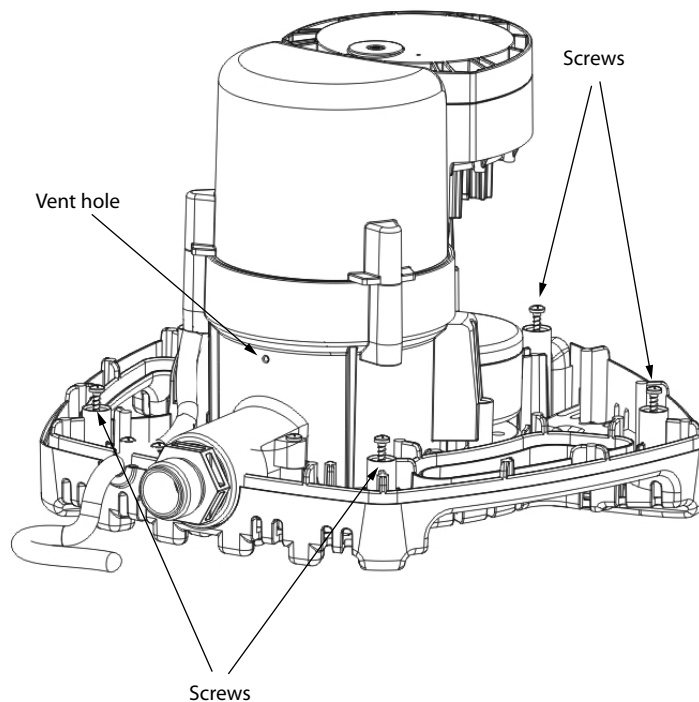

FIGURE 1
This pump has an internal vent hole to prevent an air-lock condition. Periodically the vent hole can become obstructed and will require cleaning according to Figure 1 and the following steps:
2. Loosen and remove the five screws from the outer blue cover. (**NOTE:** Only four of the five screws are shown in Figure 1.)